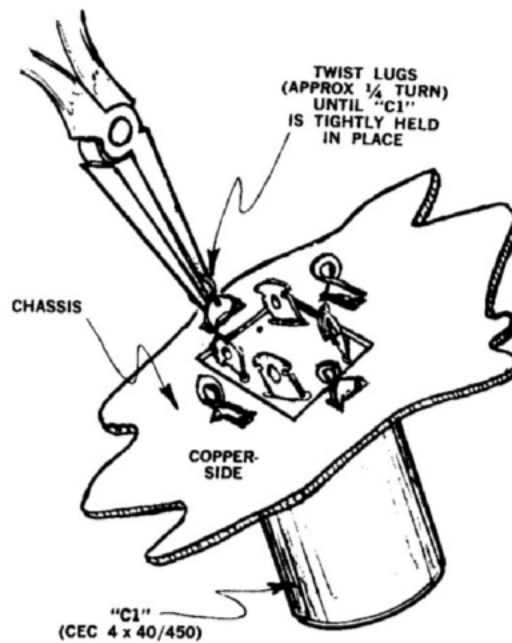

FIGURE 7
- A-1-8.** Install C1 (CEC 4X 40/250) in the slots marked C1, so that the little identification marks on the base (a triangle, square, and semicircle) agree with those shown on Chart A-2. Take your long nose pliers, grasp the outer mounting tabs firmly, and twist them 1/4 turn each. This will seat C1 firmly. (See Figure 7.)